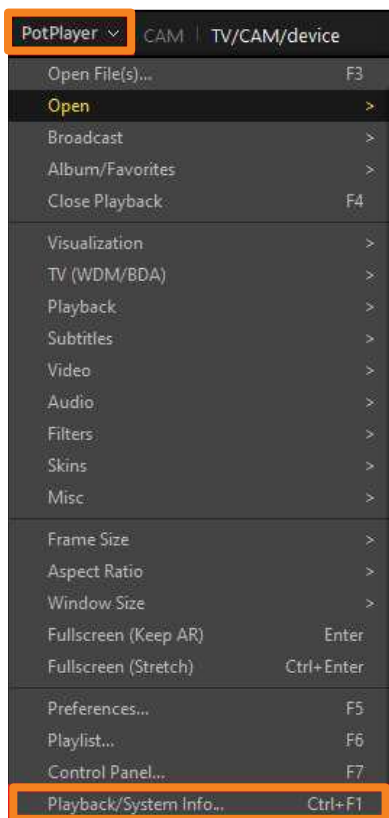
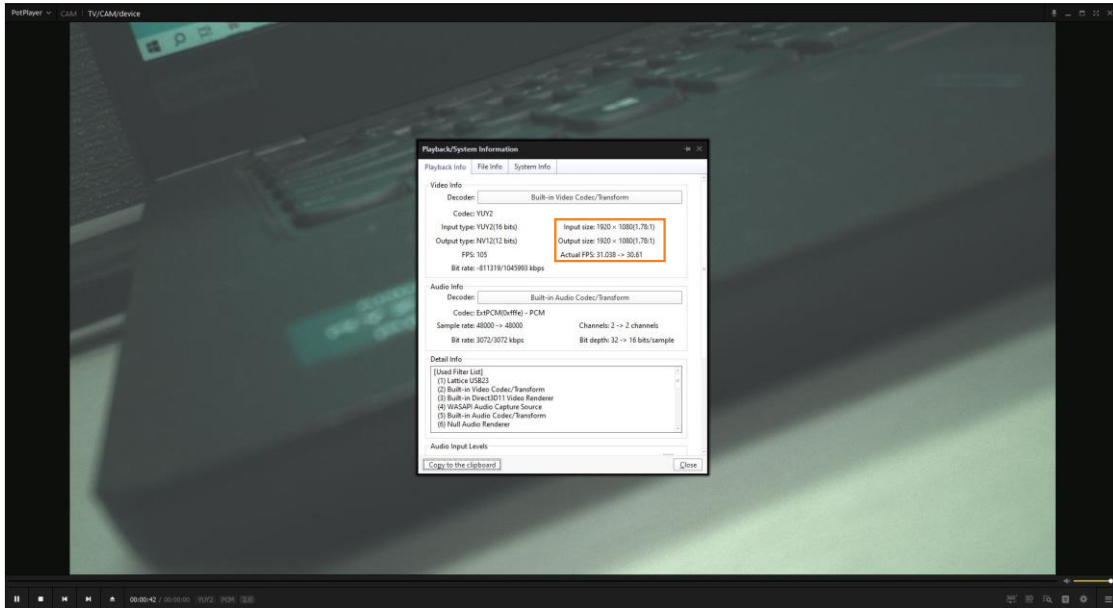

Figure 9.6. Playback/System Information
Figure 9.7. Example of Video Information
- To view the frame per second (FPS), either hit shortcut Ctrl + F1 or click **PotPlayer > Playback/System Info ...**, as shown in Figure 9.6. An example of the video information is shown in Figure 9.7.